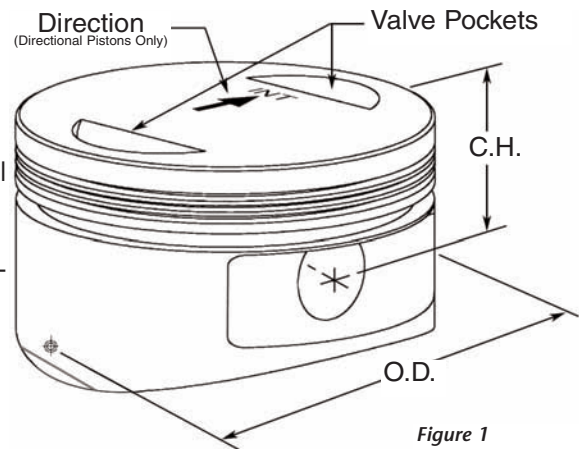

Figure 1
- d. Check piston diameter at the point indicated in figure 1. Measure pistons at the widest point across the front and back (perpendicular to wristpin bore). See figure 1.
- e. Piston Direction – When installing your pistons onto your rods, position the piston so that the arrow marked on the top will be pointed in the direction of the intake valve. See figure 1.